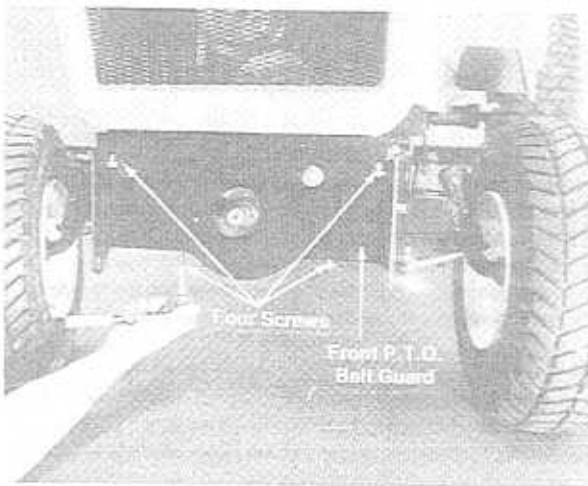

FIGURE 33.
1. Take off the front PTO belt guard assembly by removing four hex screws. See figure 33.